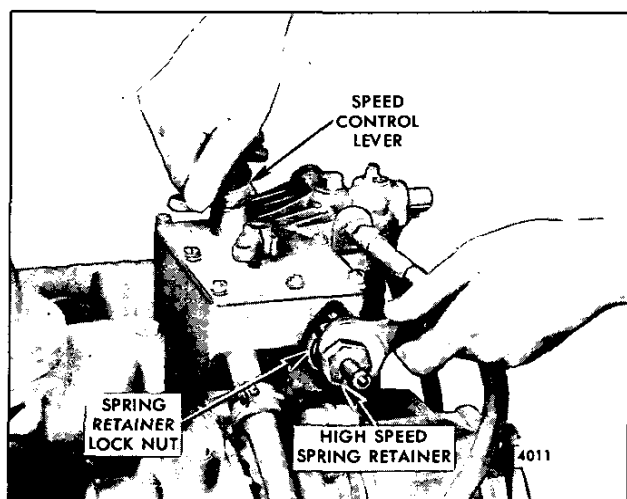

Fig. 7 – Adjusting Maximum No-Load Engine Speed
2. With the engine at operating temperature and no load on the engine, place the speed control lever in the *maximum speed* position. Turn the high-speed spring retainer in (Fig. 7) until the engine is operating at the recommended no-load speed. Use an accurate hand tachometer to determine the engine speed. The maximum no-load speed varies with the full-load operating speed.